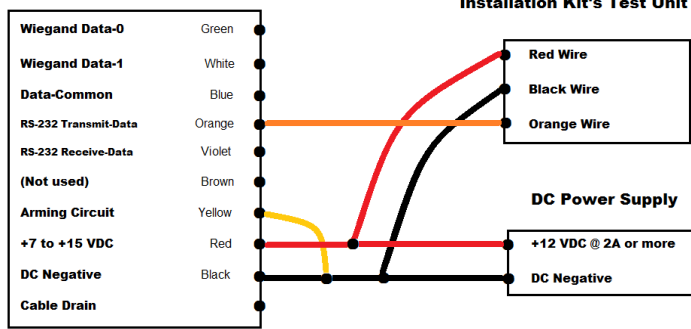

Figure 1. Test Unit Wiring.
8. **Isolated Reader:** Disconnect DC power and Wiegand data wires from the installed reader. Connect the Kit's Test Unit (small box with 3 clip leads) and a back-up battery to the isolated reader. Follow instructions in the Kit's Quick Installation Guide, and look at Figure 1 on page 8 of this Support memo.